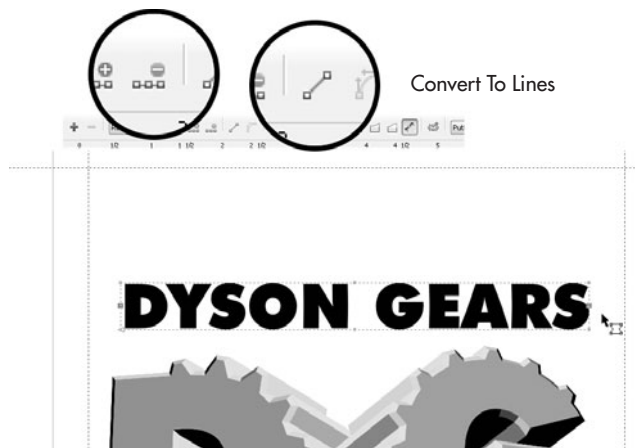

FIGURE 5-6 Use the same font as you used for the gear letters to avoid typeface style clashes.
4. While holding SHIFT, drag a corner handle away from the text center until the text width is a little narrower than the gears. Alternatively, you can type 60 in the Font Size box to make the text 60 points in height, a little less than 1 inch; this trick is useful, however, only if you're familiar with how point size corresponds to inches. See Figure 5-6.